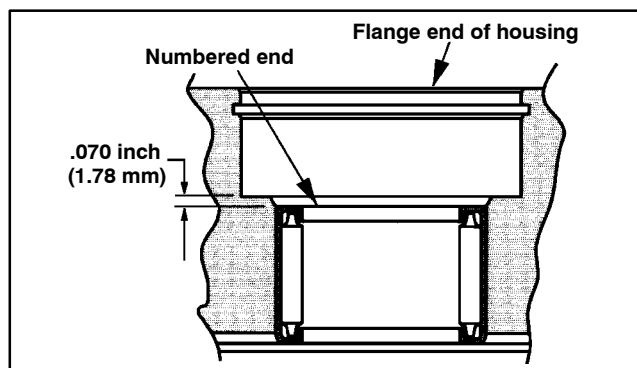
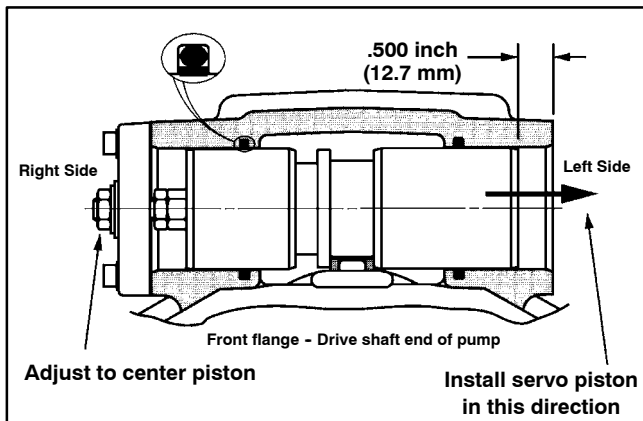

Figure 59
Figure 61
2. Check the bearing (39) (press fit) in pump housing (19). If needles remain in cage, move freely, and setting at the dimension shown in Figure 59, bearing removal is not required.
2. If necessary, press new bearing into pump housing to dimension shown in Figure 59 with the numbered end of bearing outward.
3. Install the two new seal sub-assemblies (37) into the servo piston cavity of pump housing (19).
4. Screw the cover plate (10) onto the servo piston assembly (7). Install new cover plate gasket (33) in place on pump housing. Install servo piston assembly (7) and cover plate (10) into servo piston bore in right side of housing (Fig. 61). Retain cover plate with four washers (31) and socket head screws (5). Torque screws from 40 to 48 in-lb (4.5 to 5.4 N-m). To obtain neutral, centering the servo piston assembly is required. Measure in from the left side and set servo piston .500" (12.7 mm) from surface of housing servo bore as shown in Figure 61.